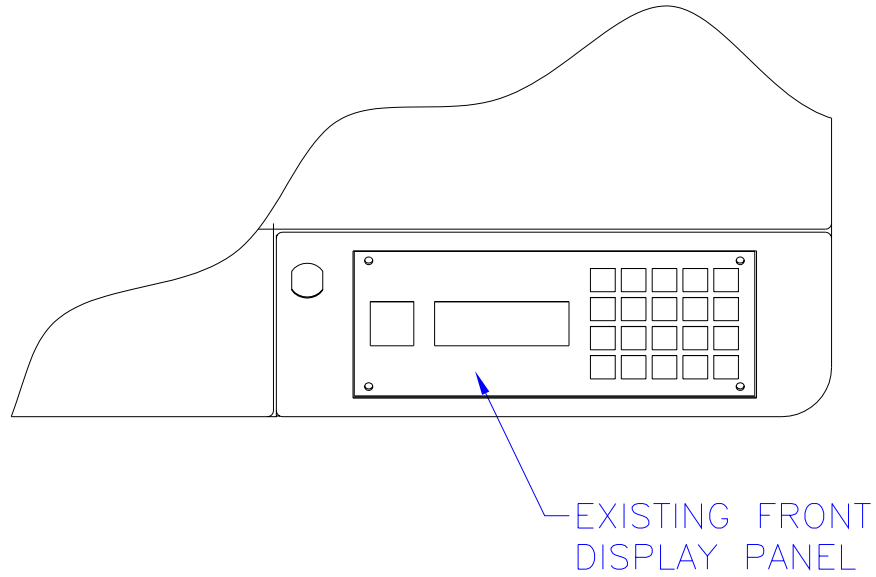

Figure 4, FRONT PANEL DETAIL
6. Disconnect the display cable from the back of the display panel. Reference Figure 4.